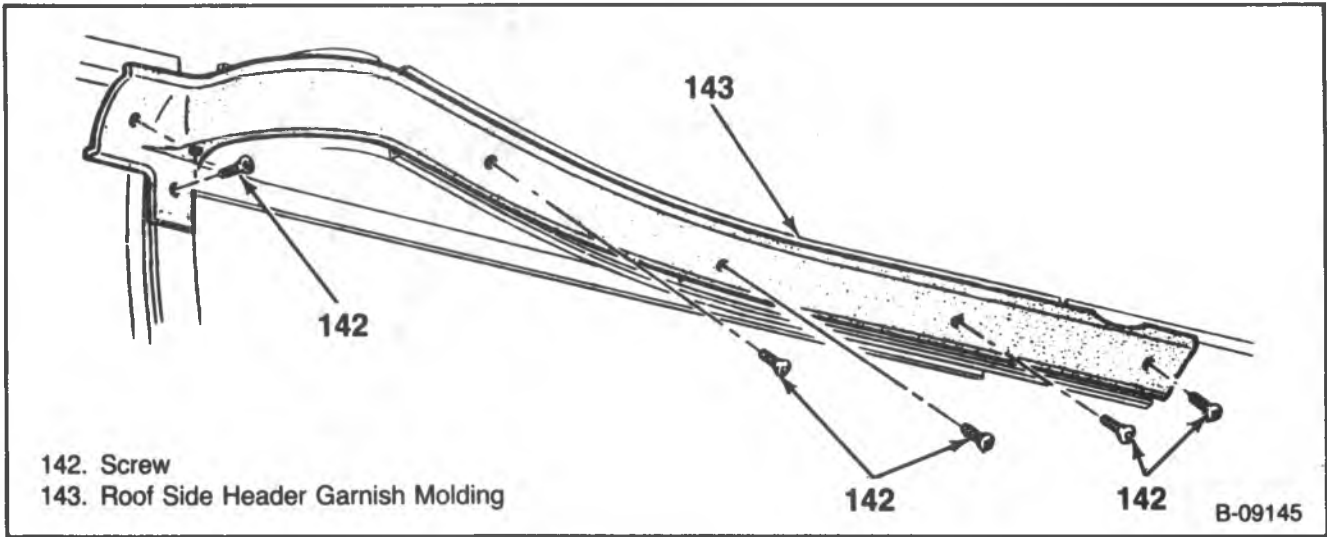

Figure 50 — Roof Side Header Garnish Molding
6. Roof side header garnish molding (figure 50). For vehicles with the sliding side door only.
9. Roof side header garnish molding and screws (figure 50). For vehicles with the sliding side door only.